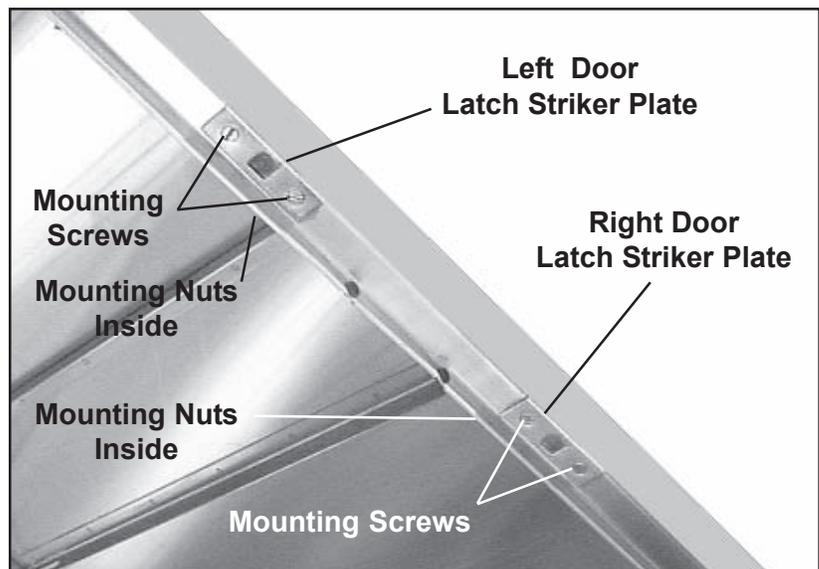

Figure 28. Striker Plates and Mounting Screws
2. With a flat blade screwdriver and a 3/8 in. open-end or box-end wrench, remove the two striker plate mounting screws and nuts (Figure 28), and remove the striker plate.